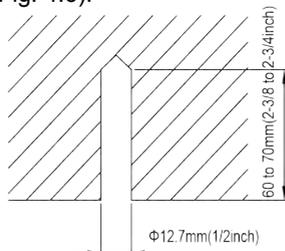

Fig.4.3
- (1). Install the bolts to the ceiling at a place strong enough to hang the unit. Mark the bolt positions from the installation template. With a concrete drill, drill for 12.7mm (1/2inch) diameter holes (Fig. 4.3).